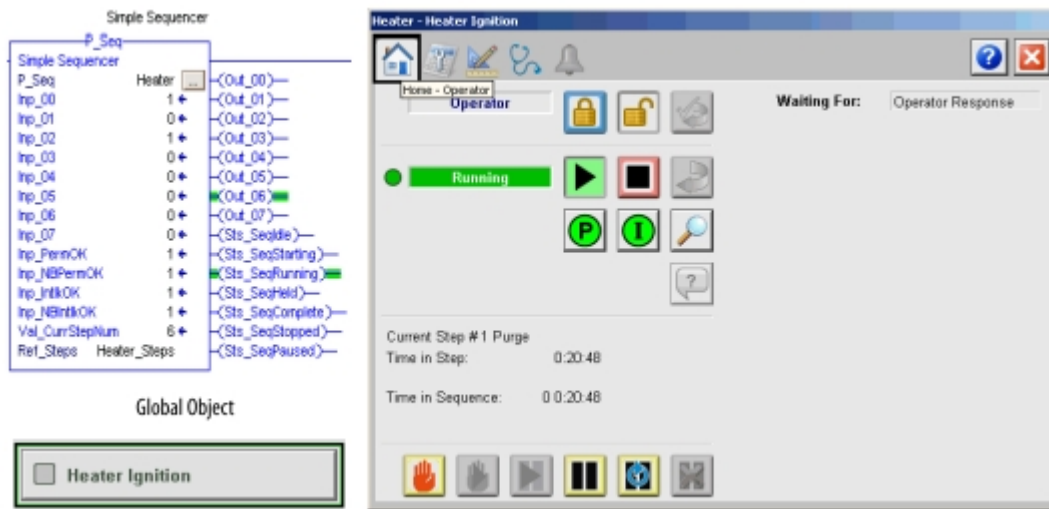

Fig.5 Sequence control
**Sequence Control.** Sequence control is applied in the following process area, such as process water preparation, pulper, enzyme preparation and pulp dewatering. We realized sequence control by using Rockwell Automation Sequencer Object (P\_Seq) [4], as shown in Fig. 5.